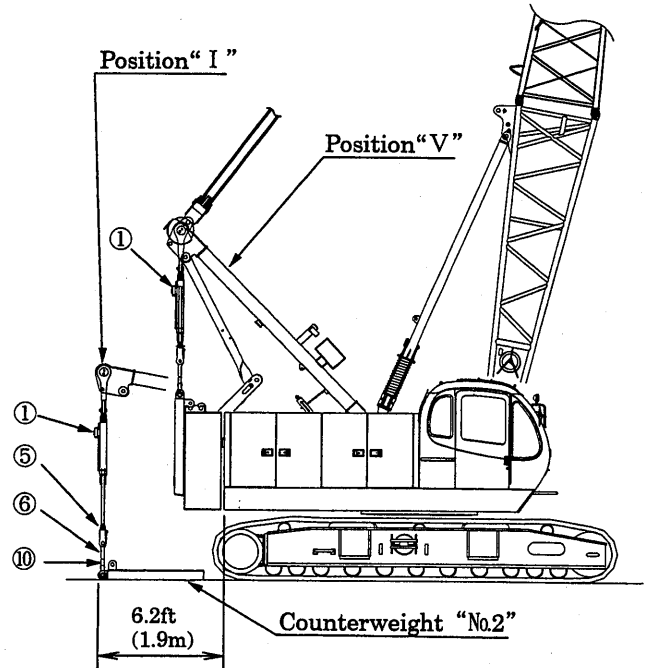

Fig 10-21
10.3.3 DISASSEMBLY OF COUNTER- WEIGHT NO. 2 (FIG. 10-21)
- (1) To secure a space to lay the counterweight No. 2 down on the ground, travel the machine forward about 10 ft, or turn the machine 180° .
- (2) Retract the lift cylinder, and raise the gantry as per the "Position V" shown in (Fig. 10-21) by boom raising operation.
- (4) Lift the counterweight No. 2 by operating the control box to fully retract the right and left lift cylinders ①, while keeping a balance of right and left sides of it.
- (5) Lower the gantry to the "Position I" shown in the figure 10-21 by boom lowering operation.
- (6) Extend the lift cylinder until the counterweight No. 2 is completely laid down on the ground to backward. If necessary, travel the machine backward to lay down the counterweight No. 2 on the ground.